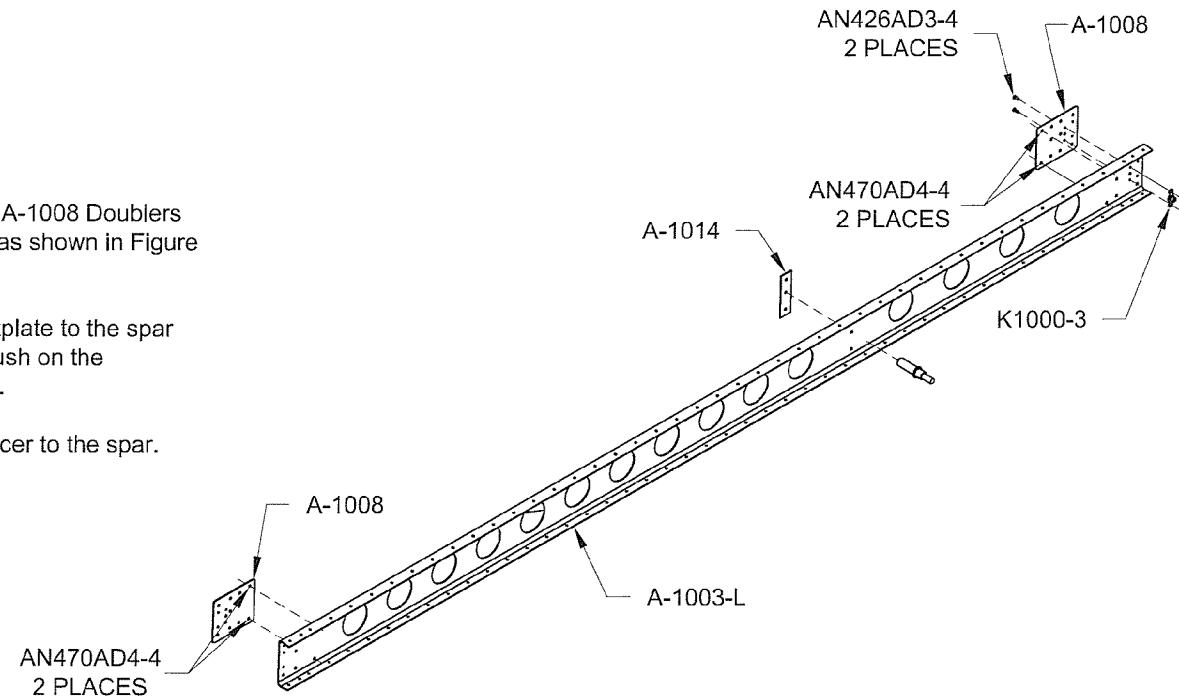

FIGURE 2: ATTACH DOUBLERS
Step 3: Rivet the two A-1008 Doublers to the A-1003-L Spar as shown in Figure 2.